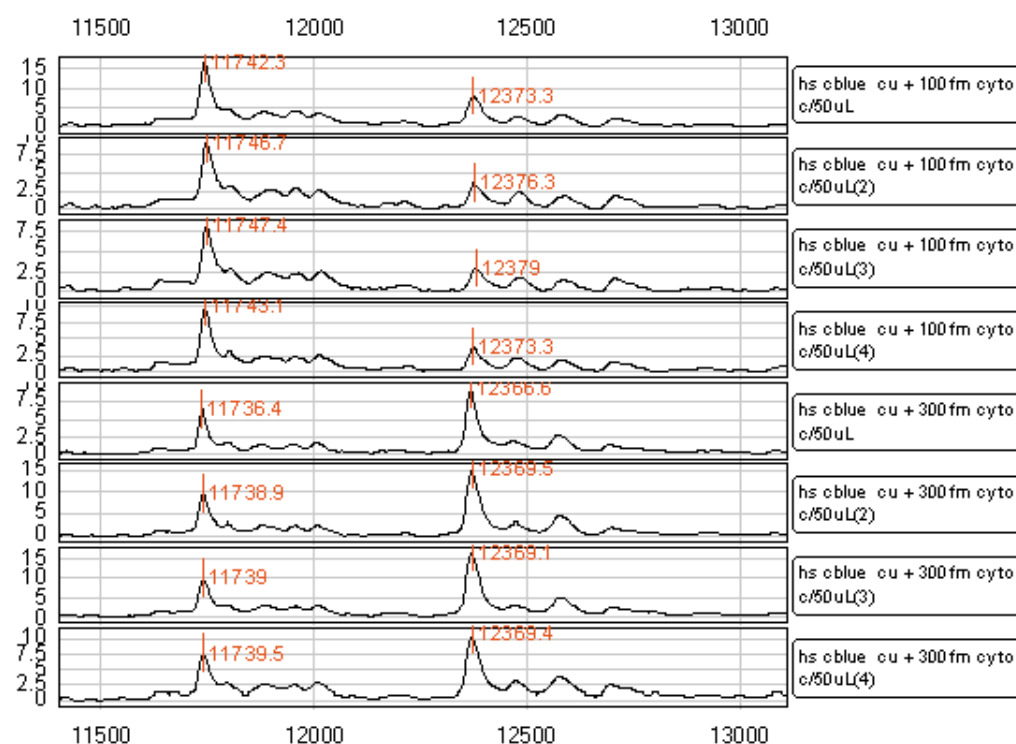

Figure 5-25: Data displayed in *Stacked* layout.
- **Stacked:** is the default layout and displays the spectra aligned by molecular weight and stacked sequentially below each other as shown in Figure 5-25.